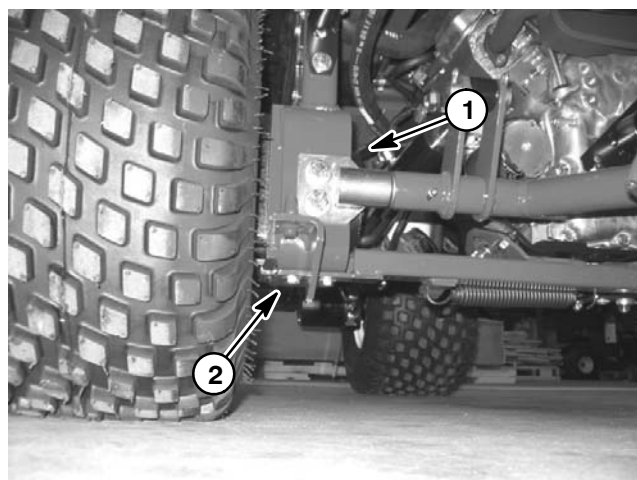

Figure 2
1. Jack the rear of the machine from below the wheel motor (Fig. 2).